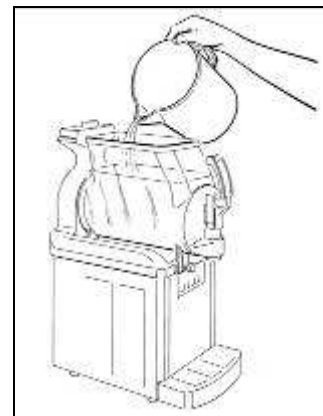

Fig. 3
- **P**our lukewarm water into the bowl (fig.3) and, after re-positioning the main cover, make the scraper auger rotating for some minutes (all LED switched off).